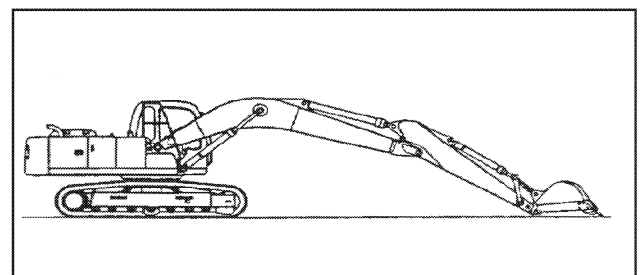

FIGURE 5.4
7. Place front attachment to hydraulic oil check position. See Figure 5.4.